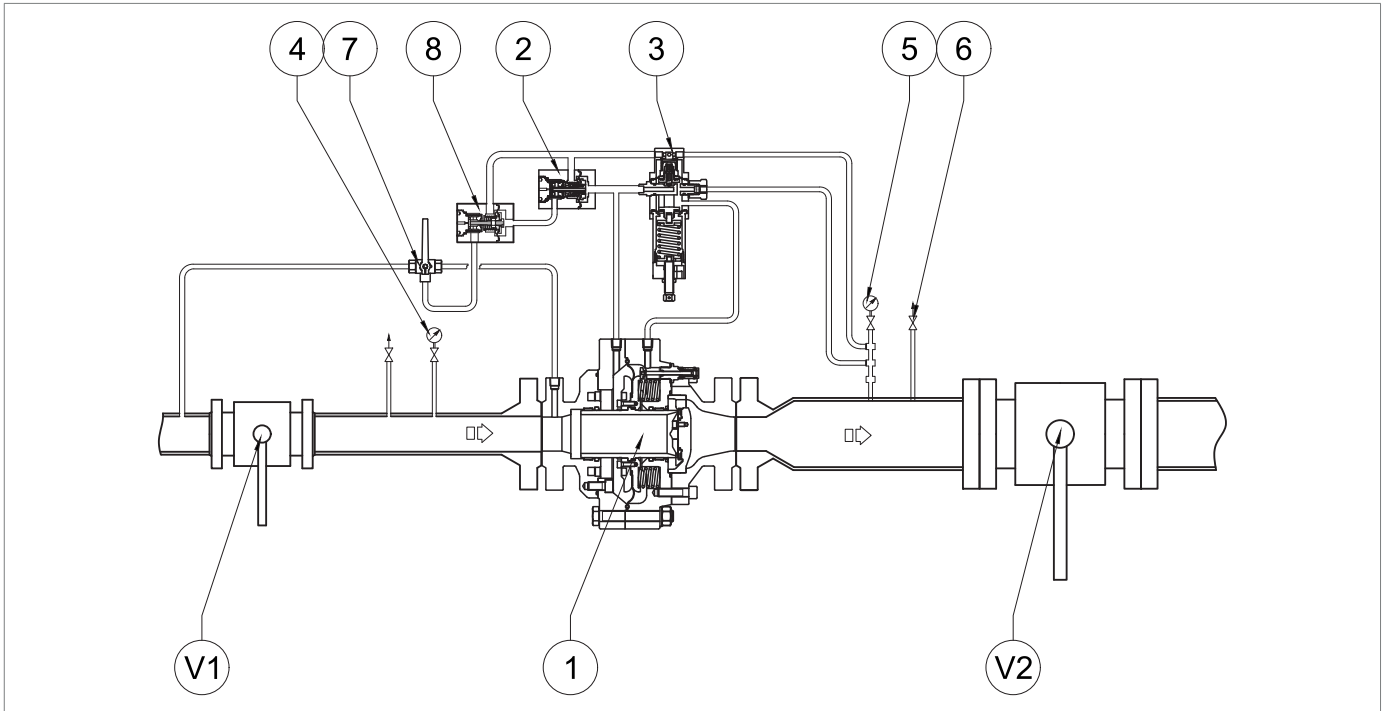

Fig. 8.24. Commissioning the regulator ASX 176/FO
| 1 | <p>By adjusting the main regulator, increase the downstream pressure up to the tripping value of the slam-shut valve, to check for proper calibration.</p> <div style="border: 1px solid blue; padding: 5px;"> <p>! NOTICE!</p> <p>Check the pressure referring to the pressure gauge (fig. 8.24, ref. 5) downstream of the main regulator. If the slam-shut valve:</p> <ul style="list-style-type: none"> • trips before the expected pressure value: screw in (clockwise) the adjustment ring nut (13) so as to further compress the spring (11); • does not trip at the expected pressure value: unscrew (anti-clockwise) the adjustment ring nut (13) so as to relieve the spring (11). </div> |
| 2 | By opening the drain cock (fig.8.24, ref. 6), decrease the pressure in the downstream section to the calibration value of the main regulator. |
| 3 | Close the drain cock (fig. 8.24, ref. 6). |